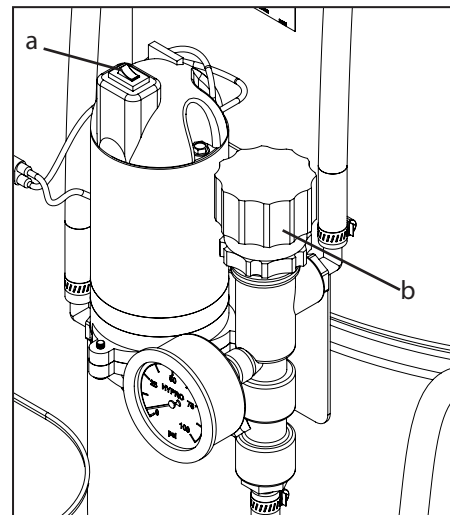

Figure 5: Switch and relief valve
2. Turn on the pump with the switch (a) located on the top of the pump and set the pressure by turning the relief valve (b) (Figure 5). The pressure should be set to the rate found when calibrating the drum applicator.